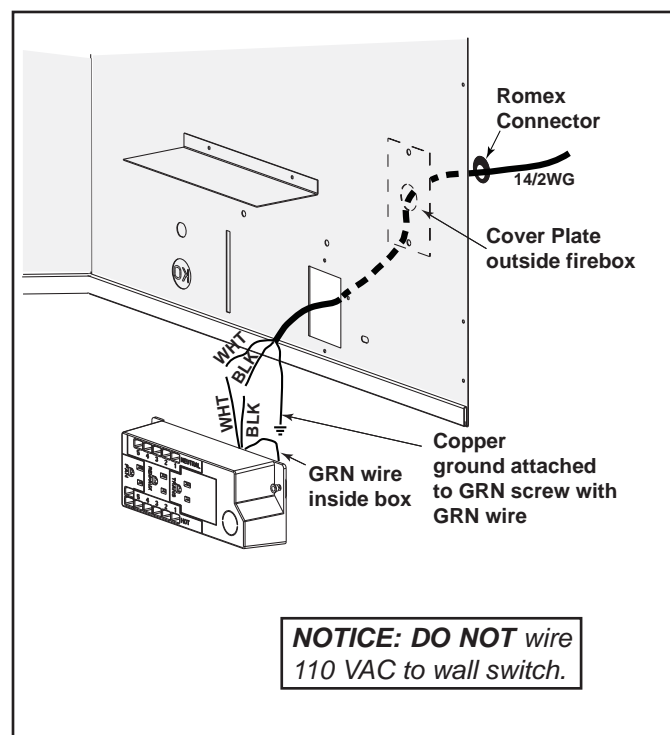

Figure 12.2 Junction Box Detail
- Remove the screw attaching the junction box/receptacle to the outer shell, rotate the junction box inward to disengage it from the outer shell (see Figure 12.2).
- Pull the electrical wires from outside the appliance through the opening into the valve compartment and secure wires with a Romex connector. See Figure 12.2.